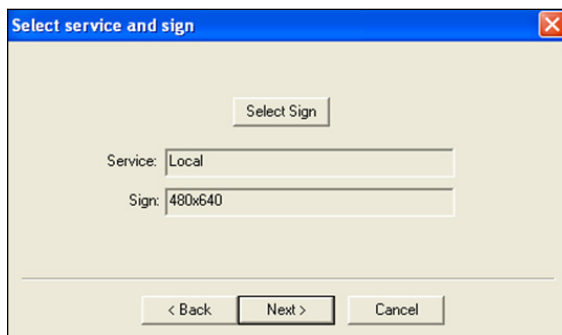

Figure 30: Selecting Sign
7. Click **Select Sign** to select the sign connected to the VIP-4400, then click **Next**. Refer to **Figure 30**.